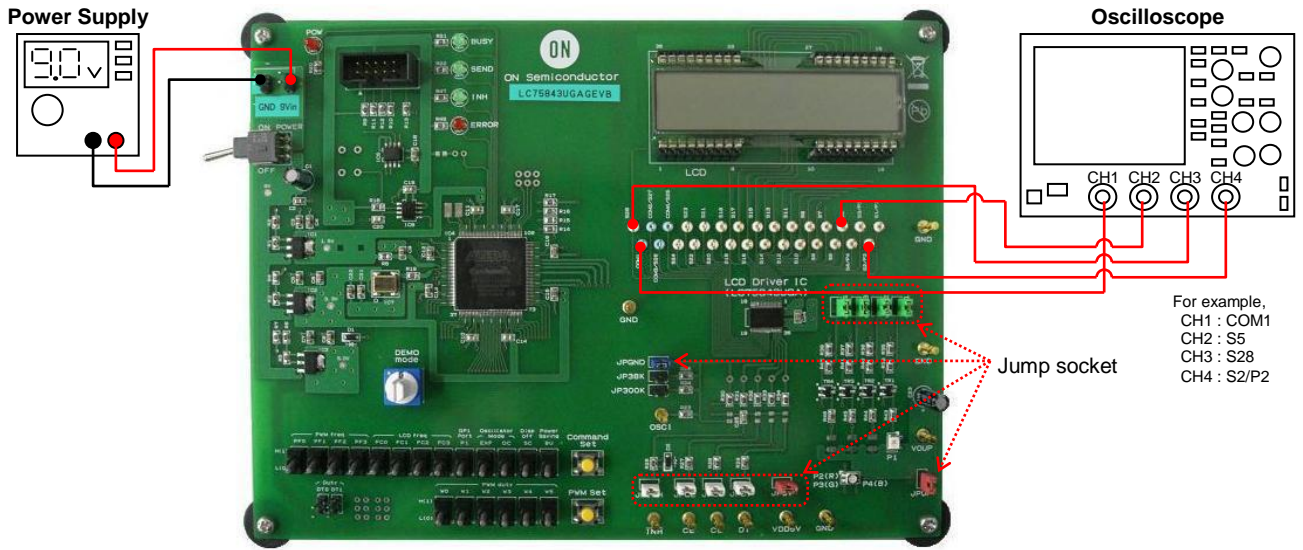

Figure 1. LC75843UGAGEVB Recommended Test Setup
- (1) Connect the test setup as shown in figure 1.
- (2) Insert the jump sockets of the JP5V, JPGND, JPINH, JPCE, JPCL, JPD1, JPUP, JPP1, JPP2, JPP3 and JPP4, and remove the jump sockets of the DT0, DT1, JP38K and JP300K.
- (3) The power supply of the evaluation board is turned on by moving “POWER” switch to the “ON” position. (The red monitor LED of the “POW” turns on)
- (4) An automatic demonstration mode is selected by moving “DEMO mode” switch to the “9” position.